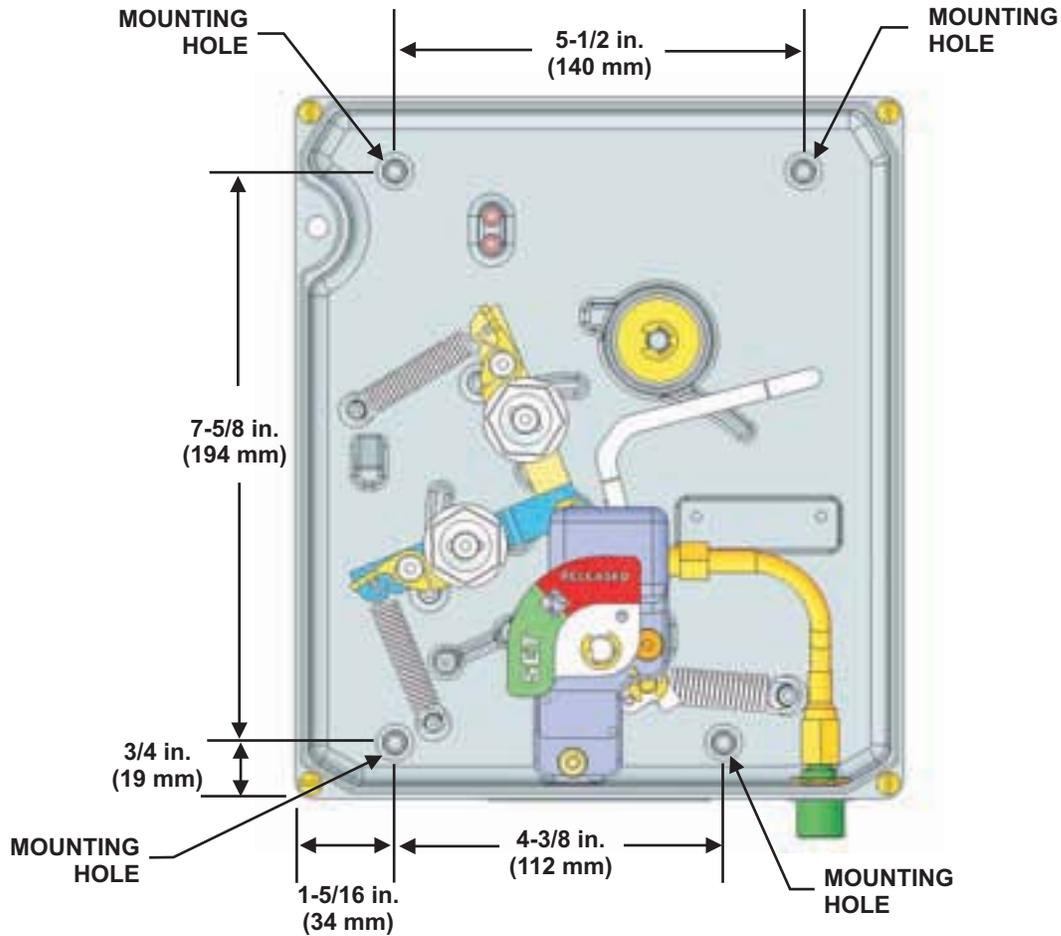

Figure 4-10. Location of Mounting Holes (Housing)
1. With the UCH Control System cover removed, lay the box on its back. Locate the four mounting holes in the housing. Position the box so that the mounting holes are not flat on the work surface and break out the knockouts. See Figure 4-10 for location of mounting holes.